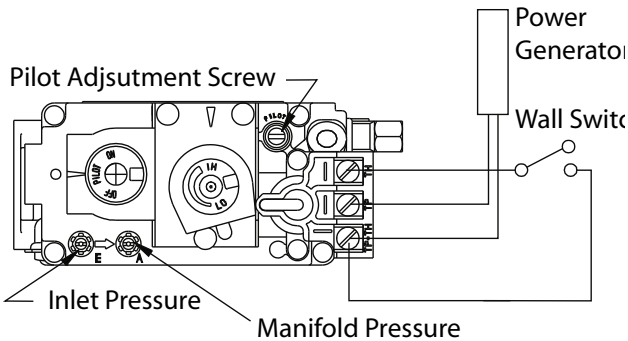

Figure 14. Sit Nova 820 gas valve.
1. Locate Pilot Adjustment Screw. (See figure 14.)
Pilot won't ignite	Disconnect remote wires and try to light pilot. If pilot now works, remote connections are faulty. Check wiring diagram figure 14.
Main burner will not light	<ol style="list-style-type: none"> 1. Check wiring (see figure 14). 2. Check wall switch for proper connection.